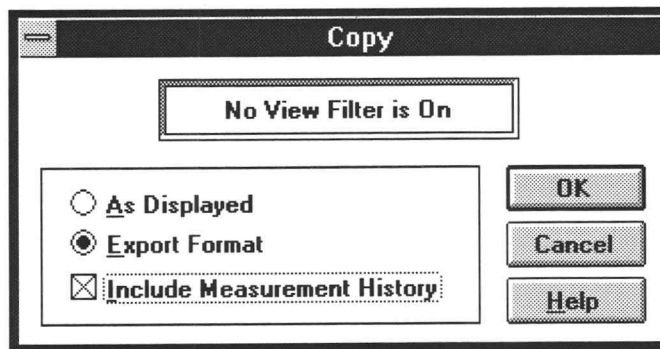

Figure 6-7. The Copy dialog box.
2. With that cell still selected, from the Edit menu, choose Copy. The Copy dialog box appears as shown in Figure 6-7.